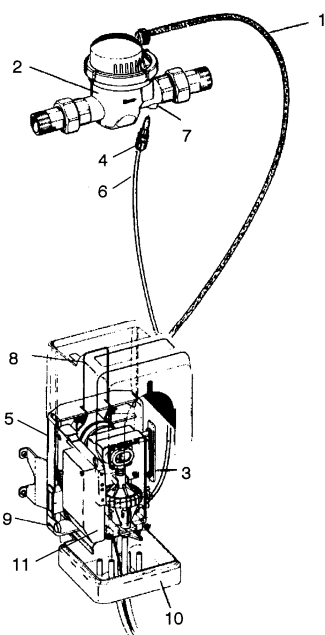

Fig. E-2: Connection pulse generator EGS 30
Excessive cable length can be pulled into the casing and rolled up on the cable bearer (3). To do so, open the covering cap (8) by means of the two locking keys at the sides (9), (refer to fig. E-2).
Replacement of the electronics (refer to fig. E-2, item 11).
- Replace injection valve (fig. E-2, item 4).
- Injection valve, fig. E-2, item 4
- Remove the cover of the pump body (see fig. E-2).